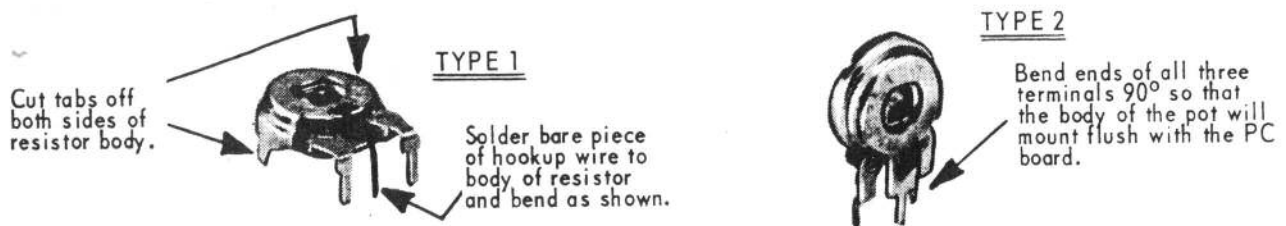

Fig. 3 Preparation of miniature pots prior to installing on board.
- () 8. Install all six of the miniature trim adjustment pots on the board. **NOTE:** These pots may be of two different types. Refer to fig. 3 for proper preparation prior to mounting on board.